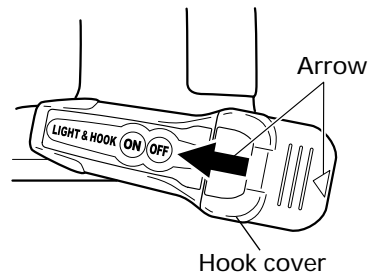

Fig. 15
- (1) Loosen the hook screw with a phillips-head screwdriver (No. 1). (Fig. 14) Remove the hook cover by pushing in the direction of the arrow. (Fig. 15)
- (3) Align the indentation in the hook main body with the protuberance of the hook cover, press the hook cover in the direction opposite to that of the arrow shown in Fig. 15 and then tighten the screw. Use commercially available AAAA batteries (1.5 V).